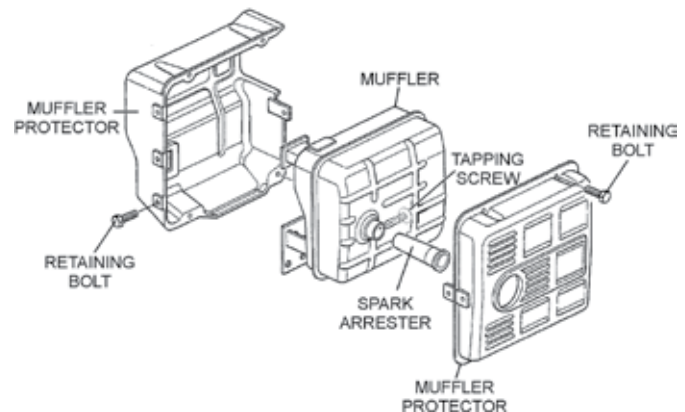

Figure 41. Spark Arrester Removal
1. Remove the muffler protector retaining bolts (Figure 41), then remove muffler protector.